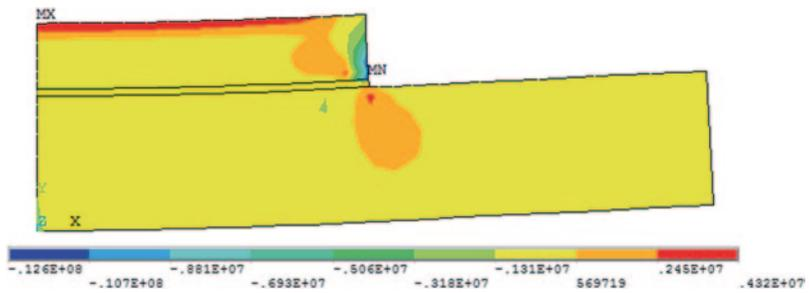

Fig. 9.56 Contour plot of the peeling stress due to thermal loading at load step 1, substep 100
- The thermomechanical solution may be repeated for any substep of interest. Figs. 9.56 and 9.57 show the contour plots of normal stress in the y -direction and shear stress for substep 100 (last substep, time = 300 s), respectively.